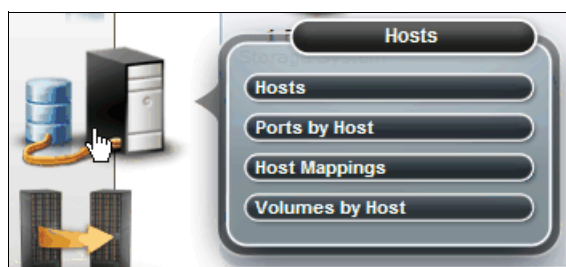

Figure 10-16 Hosts menu
1. Hover your cursor over the host type icon. The system displays the Hosts menu (Figure 10-16).